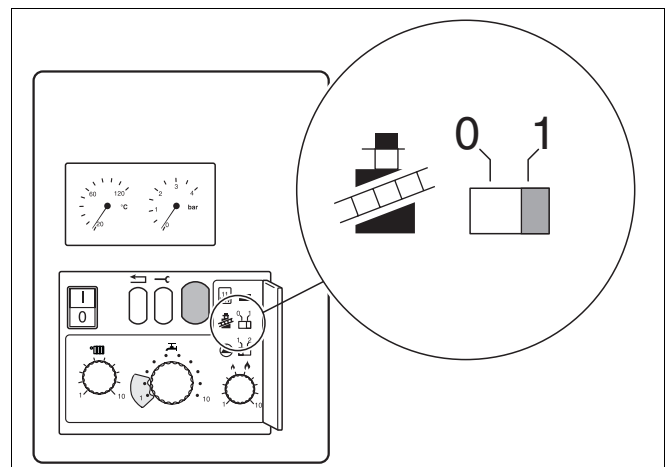

Fig. 45 Chimney-sweep switch
- Before proceeding, open the cover of the second operating level on the UBA (fig. 45).